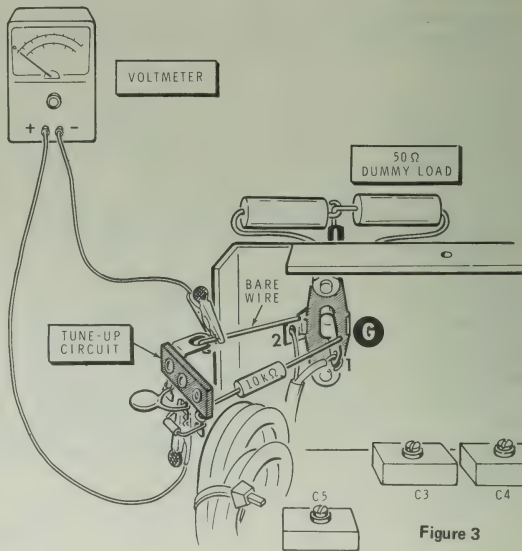

Figure 3
- () Refer to Figure 3 and temporarily solder the tune-up circuit to the lugs of phono socket G. Connect the 10 k Ω resistor lead to lug 1 and the bare wire to lug 2 of the socket as shown.